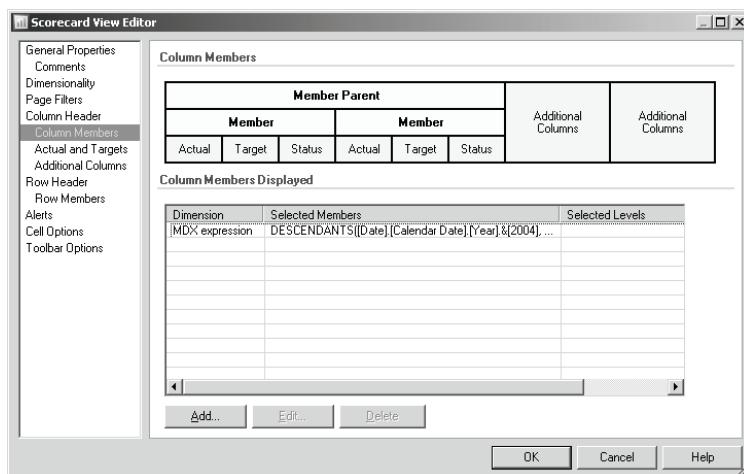

Figure 19.35 You can use static dimension members, a named set, or a custom MDX expression to define column and members of the scorecard view.
7. Select the Column Members tab to define the column axis of the scorecard view (Figure 19.35).